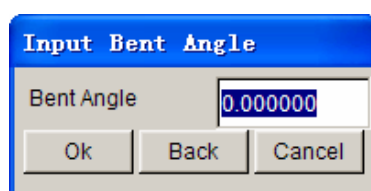

Figure 6.1.6 Input Bent Angle dialog box
- The INPUT BENT ANGLE dialog box as illustrated in Figure 6.1.6 is displayed. The bent angle is the angle between the unfolded surface and the base surface. The default angle (0°) indicates that unfolded surfaces are tangent to the base surfaces at the unfold line.